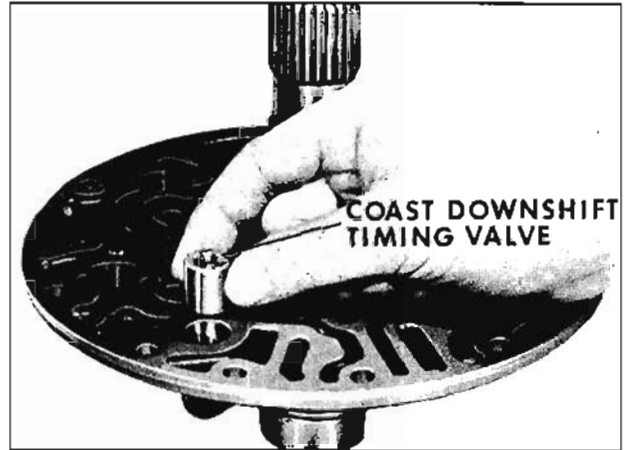

Fig. 6-343 Installing Coast Downshift Timing Valve
7. Install coast downshift timing valve "button end" up in cover. (Fig. 6-343)